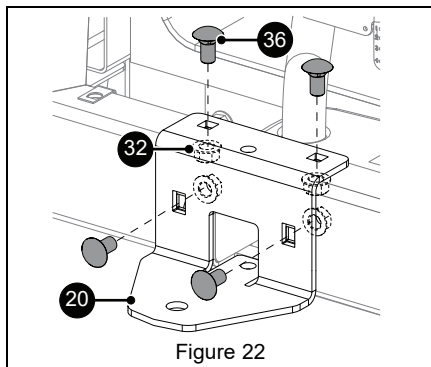

Figure 22
1. Install hitch (item 20) onto back of frame with four 3/8" x 3/4" round head square neck bolts (item 36) and 3/8" locking top flange nut (item 32). See Figure 22.